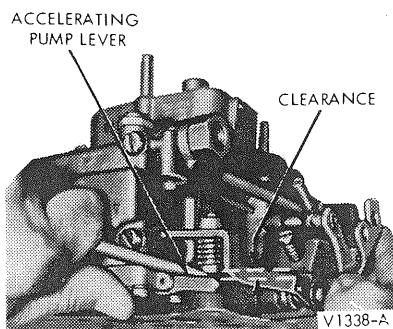

FIG. 51 Accelerating Pump Lever Clearance
1. Using a feeler gauge and with the throttle plates in the wide open position, there should be .015 inch clearance between the accelerating pump operating lever adjustment screw head and the pump arm when the pump arm is depressed manually (Figure 51).